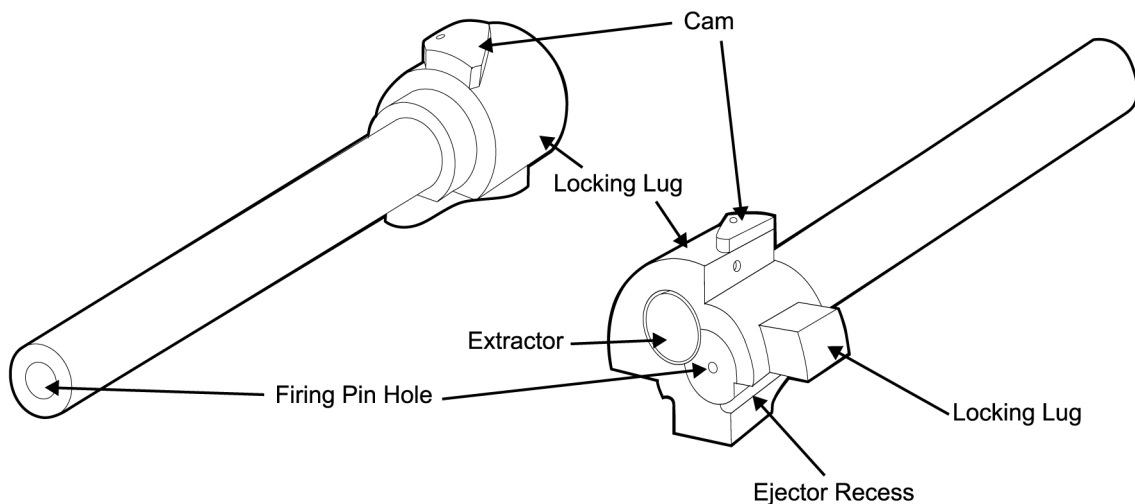

Figure 5. Opposite Views of the Bolt.
6. Inspect the bolt as follows (refer to Figure 5):